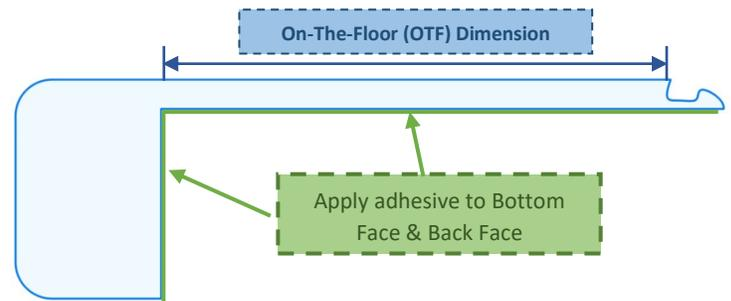

Figure 1: On-The-Floor (OTF) Dimension & Adhesive locations
3. Vinyl nosings are to be installed **BEFORE** vinyl plank flooring is installed on the stair treads. The On-The-Floor (OTF) dimension of the nosing (i.e. width of the nosing that sits on top of the stair tread **EXCLUDING** any click-lock mechanisms; see Figure 1) varies based on the width and thickness of the vinyl plank flooring. The vinyl plank flooring must therefore be cut to fit the rest of the stair tread after the vinyl nosings are installed, then clicked into the back edge of the vinyl nosing using the click-lock mechanism.
7. Nosings are to be glued down directly to the plywood stair tread using the adhesive recommended by the vinyl plank flooring manufacturer. **BOTH the BOTTOM and BACK faces of the nosing MUST HAVE ADHESIVE APPLIED** to ensure complete contact with the stair tread, as shown in Figure 1. It is important that the back face be glued to the vertical face of the plywood stair to prevent additional stress to the front of the nosing that could result in nosing damage or failure.